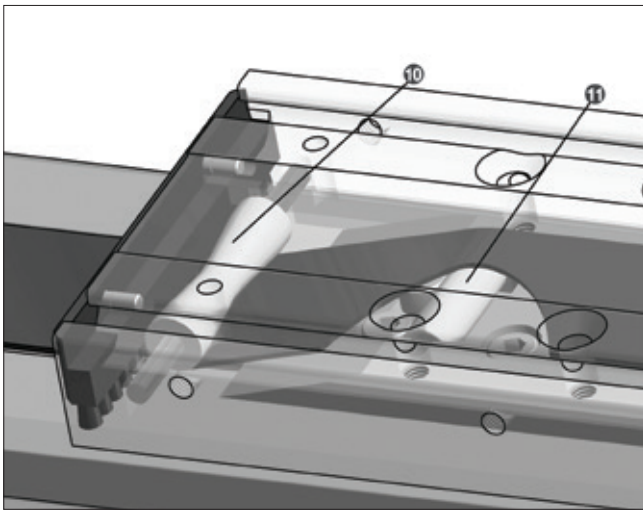

Figure 4.16 — Cover strip deflection
4. Make sure that the guiding roller **10** in the table unit and the pressure roller **11** in the slider plate can be easily moved and are free from wear, if applicable and clean or replace them (Figure 4.16). In the case of wear-related replacement of the cover strip, we always recommend replacing the guiding and pressure rollers as well (wear part sets see Chapter 4.16).